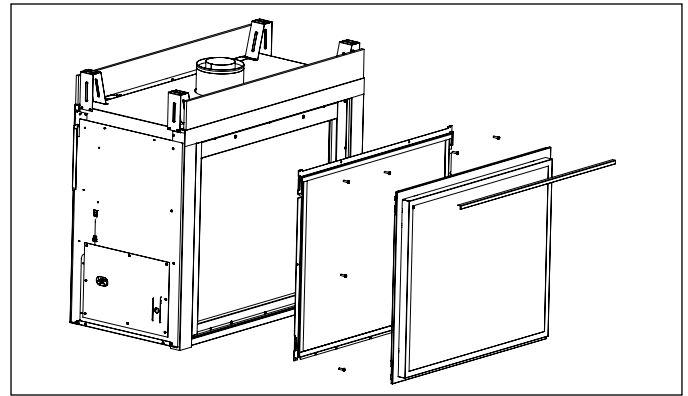

Figure 4.2 Exterior Glass Cleaning
- Remove the top trim at the top of the stainless steel outdoor decorative face. See Figure 4.2.
- Lift glass up and out. See Figure 4.2.